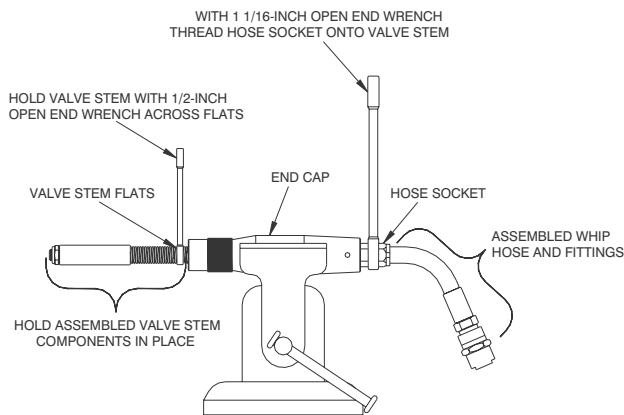

Figure 11-26. Tighten Hose Socket on Valve Stem.
8. With an xx-inch open end wrench across the flats of the Hose Socket (17), tighten the Hose Socket onto the Valve Stem. Refer to Figure 11-26.